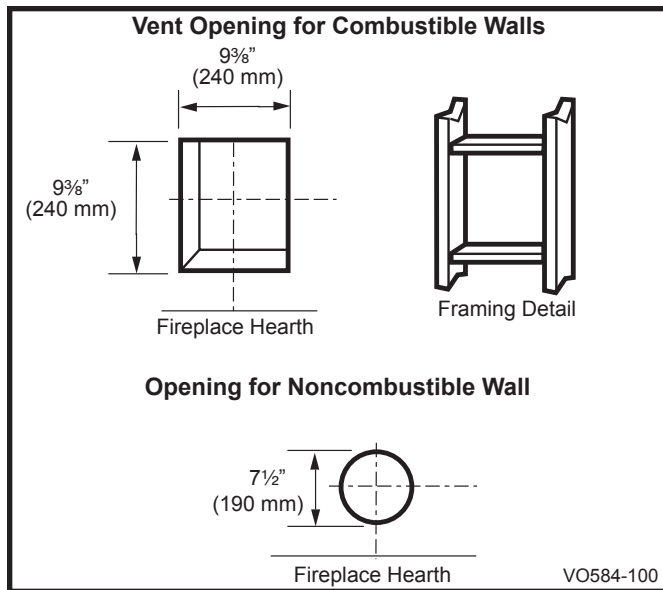

Fig. 32 Locate vent opening on wall.
Locate vent opening on the wall. It may be necessary to first position the fireplace and measure to obtain hole location. Depending on whether the wall is combustible or noncombustible, cut opening to size. (Fig. 32) (For combustible walls first frame in opening.)
**Combustible Walls:** Cut a 9 3/8" H x 9 3/8" W (240 mm x 240 mm) hole through the exterior wall and frame as shown. (Fig. 32)
1. Establish vent hole through the wall (Fig. 32)